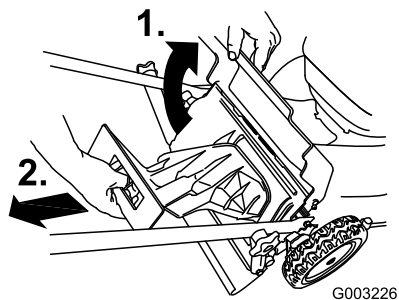

Figure 24
1. Raise and hold up the rear door (Figure 24).
2. Remove the rear discharge plug (Figure 24).